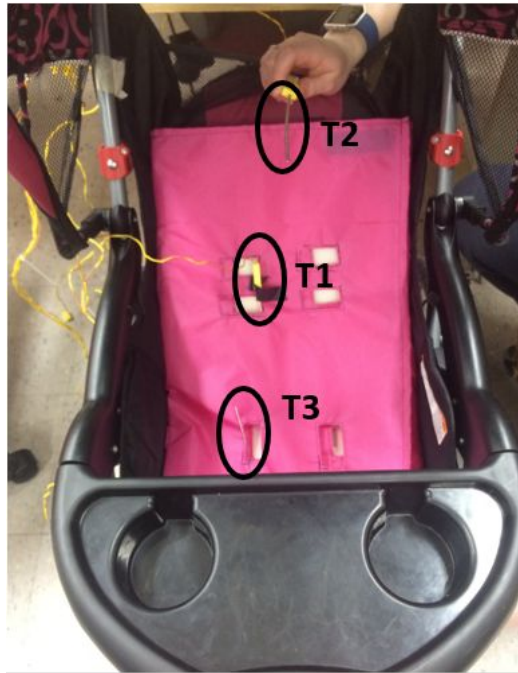

Figure 1: Thermocouple placement
1. Place/hold the thermocouple probes in the three locations as shown in Figure 1 below: